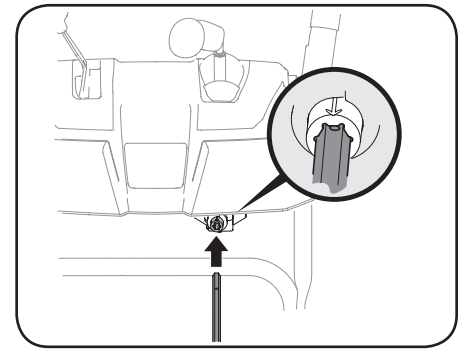

Figure 2-20
6. Insert chute control rod (hole pointing upward) into pinion gear below joystick. See Figure 2-20.